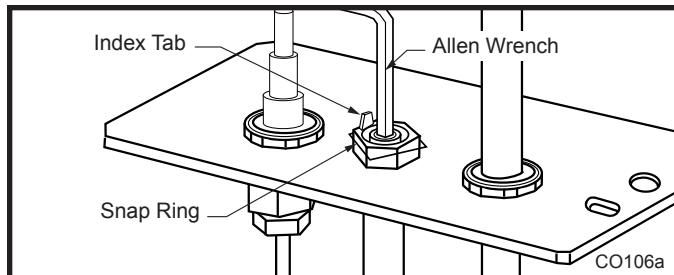

Fig. 77 Remove pilot orifice.
3. Remove pilot hood by lifting up. (Fig. 77) Do not remove snap ring to remove pilot hood. **NOTE:** It is not necessary to remove the pilot tube for conversion.